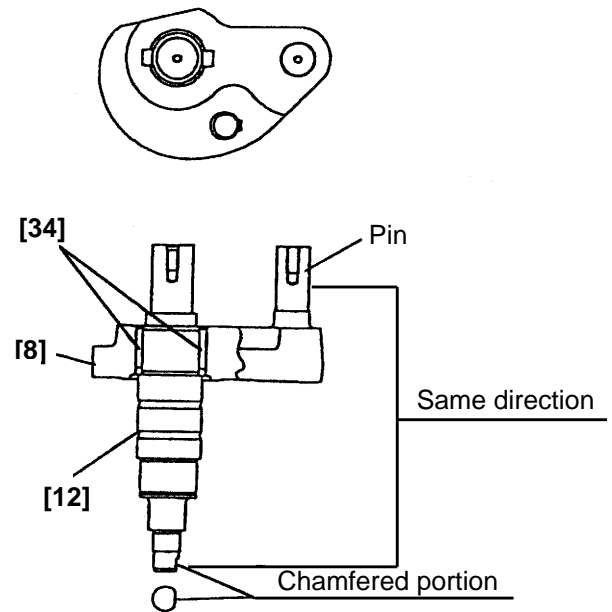

Fig. 22
(10) Disassembly of the cam shaft unit (Fig. 22)
(1) Reassembly of the cam shaft unit (Fig. 22)